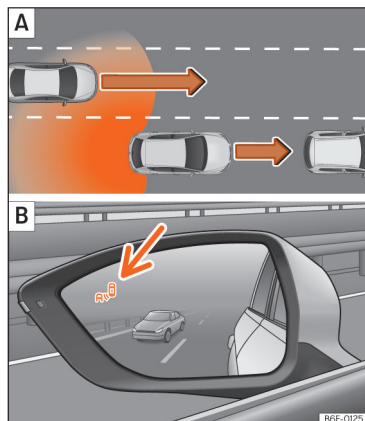
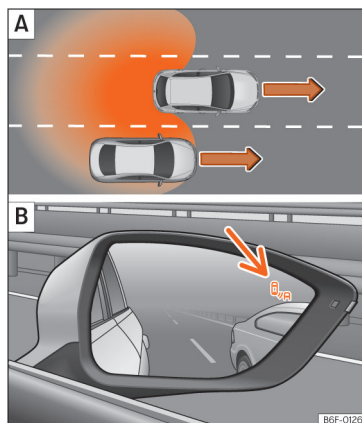

Fig. 116 Schematic diagram: **[A]** Overtaking with traffic behind the vehicle. **[B]** Side Assist indication on the left hand side.
Fig. 117 Schematic diagram: **[A]** Overtaking in the central lane and then joining the right lane. **[B]** Side Assist indication on the right hand side.
In the following situations, an indication will be displayed in the control lamp >>> Fig. 116 **[B]** (arrow) or >>> Fig. 117 **[B]** (arrow):
- When being overtaken by another vehicle >>> Fig. 116 **[A]**.
- When passing another vehicle >>> Fig. 117 **[A]** with a speed differential of approx. 10 km/h (6 mph). If the vehicle is passing at a considerably higher speed, no indication will be displayed.